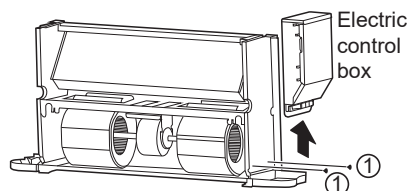

Figure 4-7 Removing the electric control box
- f) As shown in Figure 4-7, remove screws ①\*2 to remove the electric control box.